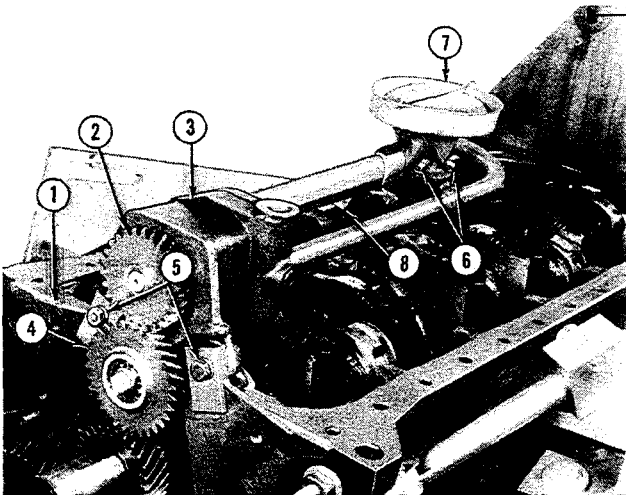

Figure 36
2. Remove the two front pump mounting bolts, two rear delivery tube mounting bolts and one pickup tube support bolt, Figure 36. Remove pump assembly with dowels and pickup tubes.